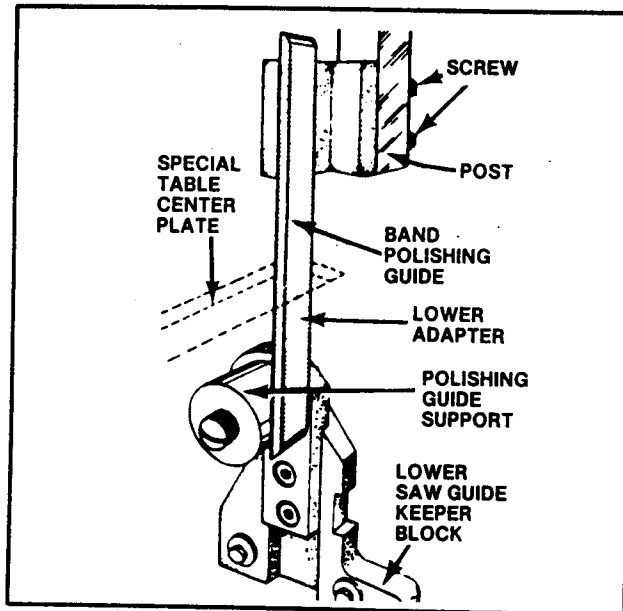

FIG. 53. POLISHING GUIDE INSTALLATION.
- (1) Remove table center disk.
- (2) Mount band guide back-up support to post, replacing the saw guides. See Fig. 53.